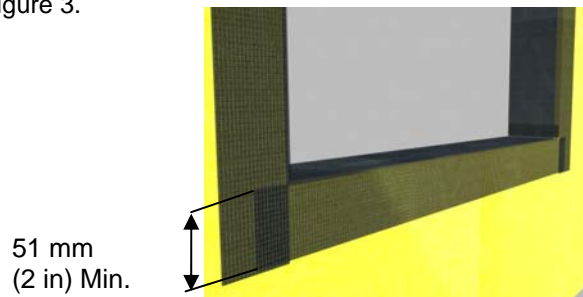

Figure 3
- 4) Install the AquaFlash System at the jambs in the same manner overlapping onto the sill material a minimum of 51 mm (2 in) - Figure 3.